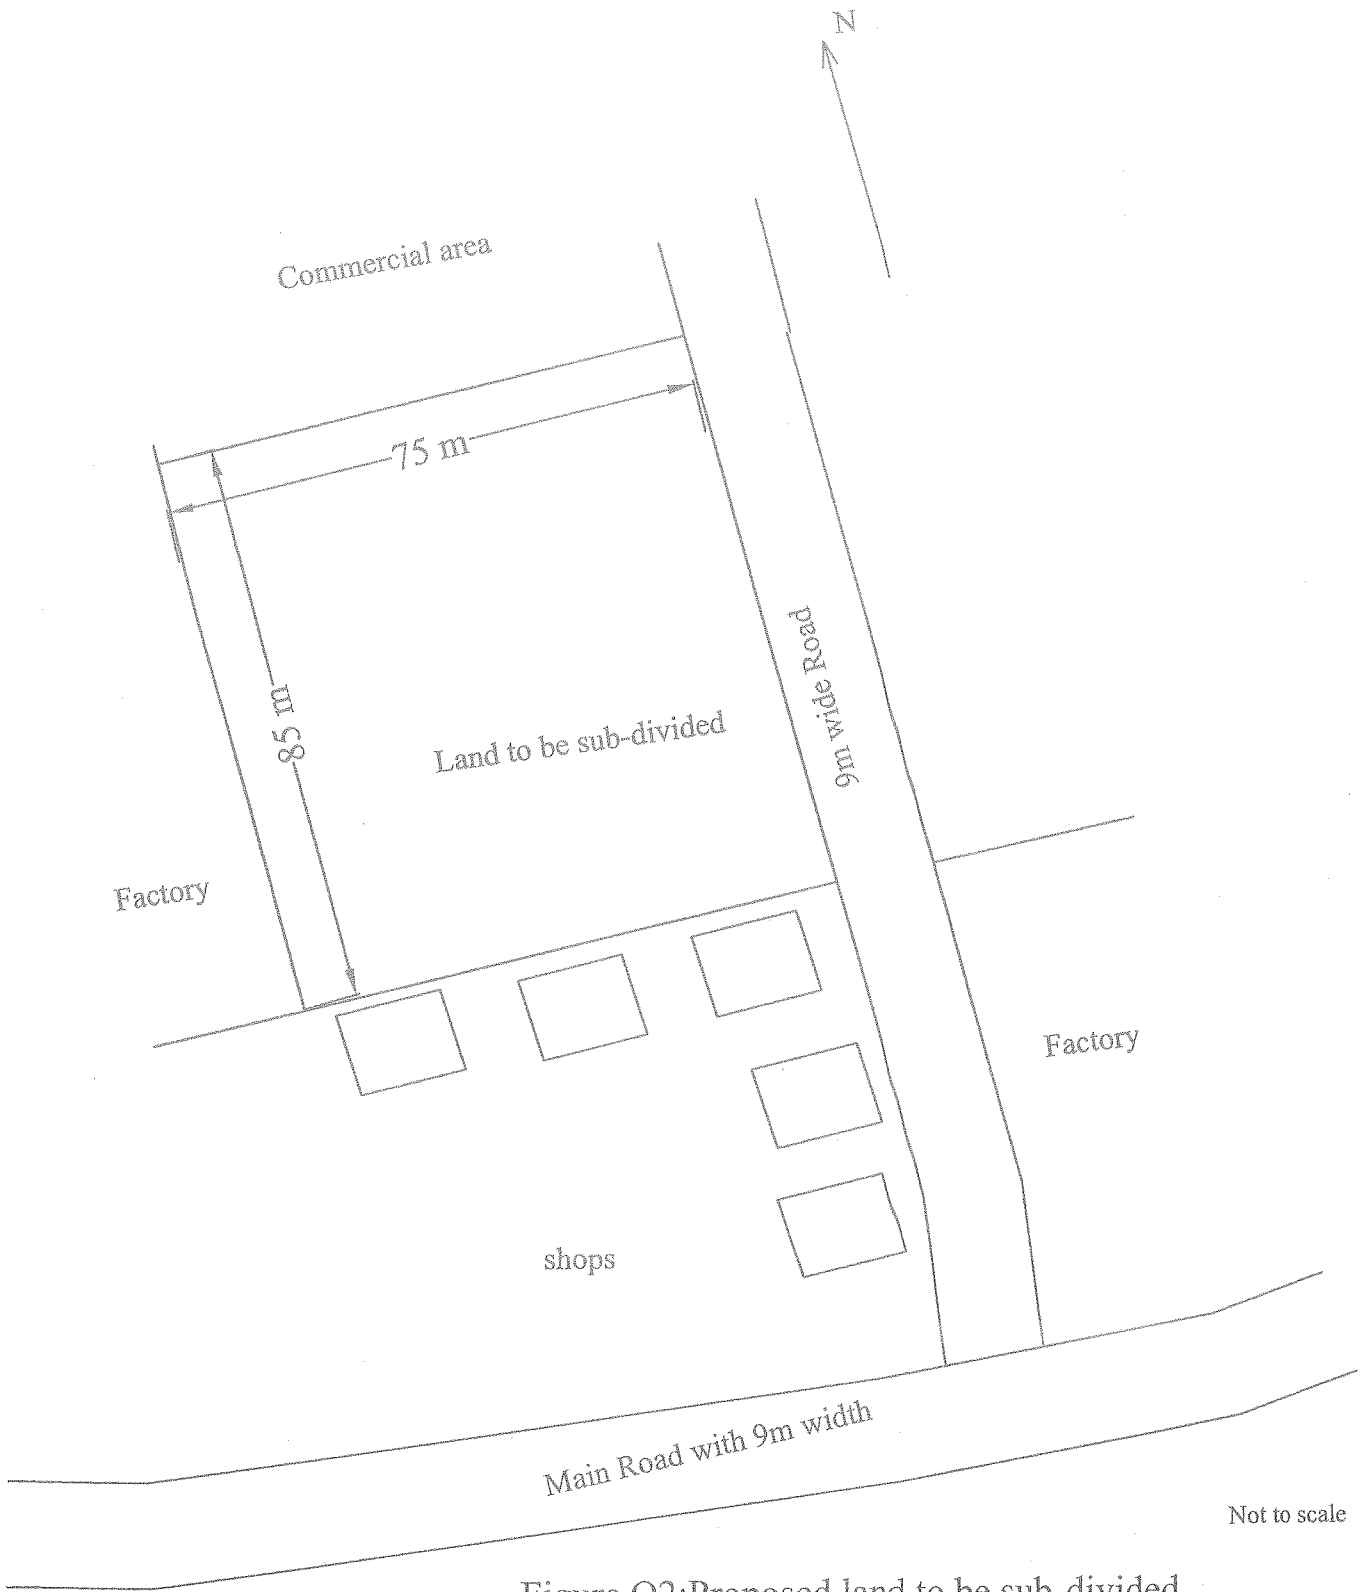

Figure Q2: Proposed land to be sub-divided
- The land for proposed sub-division is shown in Figure Q2.